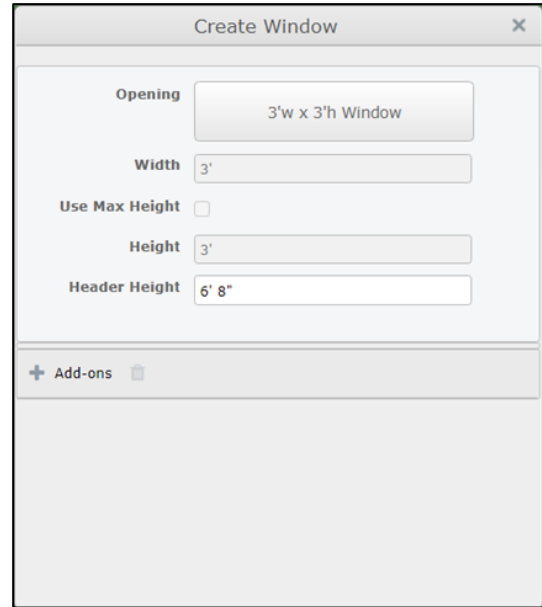

Figure 11: The dialog box for adding a Window.
2. On the *Openings and Building Additions* toolbar at the top of the page, click on the *Window* command button. The *Create Window* dialog box will open, as pictured in Figure 11 at right.